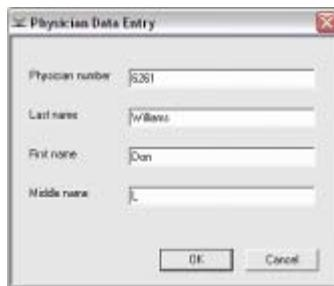

Figure 19 — Physician Data Entry
- **Physician** – Select a physician from the list. If you want to add a new physician, select **Add Physician** from the top of the list. The **Physician Data Entry** dialog box appears (Figure 19 — Physician Data Entry). Enter the physician's name and unique physician number. The physician number and last name are required fields. If there is not a unique number that identifies the physician, enter their name or other identifier.